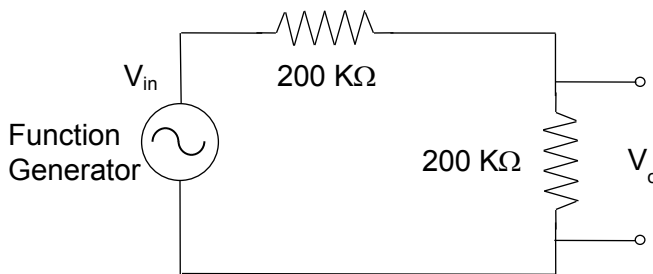
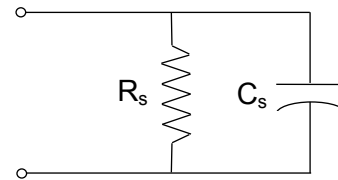

Figure 3. Voltage divider.
Figure 4. Oscilloscope loading circuit.
Consider the circuits in Figures 3 and 4 below. Our goal is to measure the output voltage $V_o(t)$ of the voltage divider shown in Figure 3 in response to a sinusoidal input $V_{in}(t)$. Ideally the voltage divider circuit gain V_o/V_{in} should not be a function of frequency. However, it will be seen that the oscilloscope introduces loading effects (R & C) on the circuit which result in potentially erroneous measurements. The oscilloscope loading effects will be modeled by the first-order circuit in Figure 4.
Construct the circuit shown in Figure 3. Record the actual values of resistance used in your circuit.
1. Measure the input and output voltage amplitudes of the circuit of Figure 3 by connecting one channel of the oscilloscope to V_{in} and the other to V_o using x1 BNC and alligator connector cables. Estimate the DC gain and cutoff frequency of the circuit by applying sinusoidal input signals over a range of frequencies from 100 Hz to 1MHz to the circuit and computing the dB gain $20 \log_{10}(|V_o(\omega)|/|V_i(\omega)|)$ as a function of frequency.